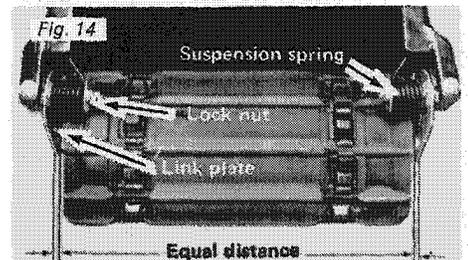

Fig. 14
2. Adjust to proper tension by turning adjuster bolts, clockwise to tighten track, counter-clockwise to slacken. Adjust both sides equally (See Fig. 14).
1. Using wrench, turn track adjuster screw clockwise on the side where the track is closest to the link plate until track aligns. (See Fig. 14).